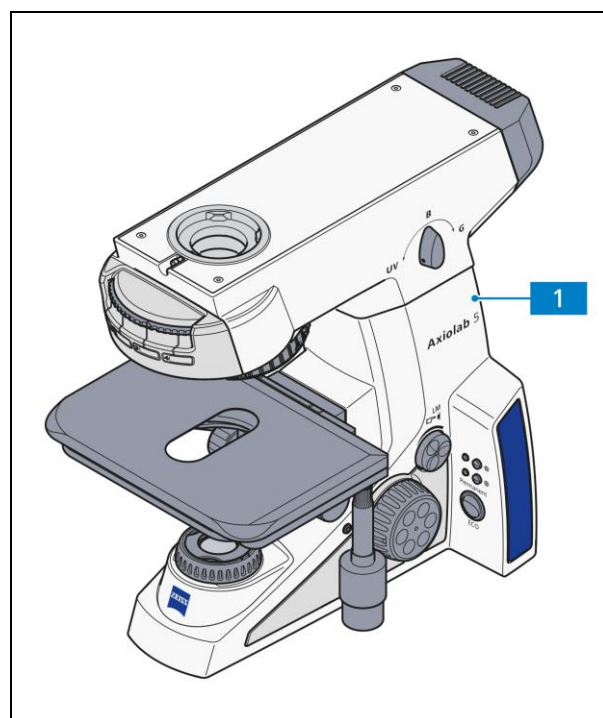

Fig. 3-1 Setting up the microscope
- Set up the microscope stand (Fig. 3-1/1) on a vibration-free, level, hard and non-combustible surface.